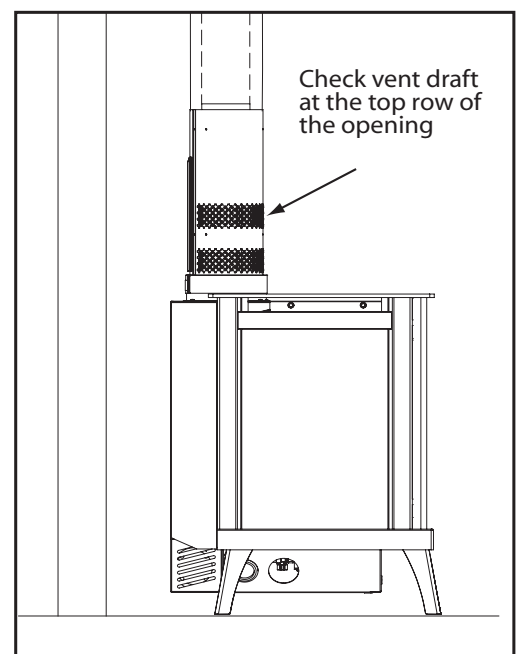

Figure 34: Draft test place.
4. After a minimum of 10 minutes operation, test the chimney draft with a smoke match at the top row of the pattern to confirm that there is adequate draft or 'pull' at the openings around the body of the Drafthood Adaptor, as shown in Figure 34.